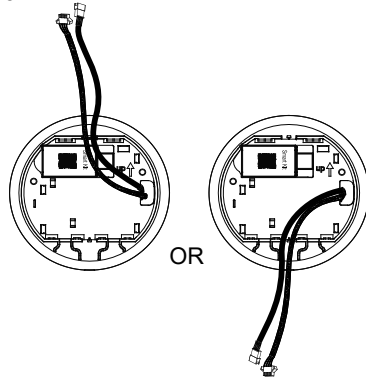

Figure 19.
7. For above or below Backing Plate, see route options as shown in Figure 19.